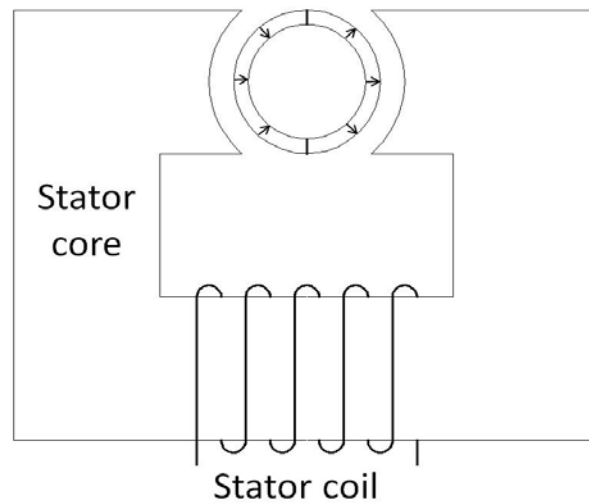

Figure 4.1 – Schematic of a single-phase permanent magnet brushless machine (shown at an angular displacement of 90°)
- iii) The average total torque produced by the machine at a current of 5A. (8)
- b.** The stator and rotor cores are manufactured from Silicon Iron. The radial airgap between the stator and rotor in the fully aligned position is 0.5mm. Listing any assumptions that you make, estimate the number of turns on each coil. ($\mu_0=4\pi\times 10^{-7} \text{ Hm}^{-1}$). (3)
- c.** The machine is rotating at a fixed speed of 200rpm. Calculate the maximum value of induced emf in the stator coil if the current is a constant 5A during the entire stroke (you **do not** need to plot the variation in flux-linkage versus rotor angular displacement unless you wish to do so to calculate the emf). (3)
- d.** The machine is driven from a 200V DC supply. At the start of the stroke, the full 200V is applied to the 4 series connected coils which make up a phase. Calculate the time taken for the current to rise to 5A when the machine is at standstill. (3)
- In each case, identify and label the main components of energy. (3)
4. a. Figure 4.1 shows a schematic of a single-phase, 2-pole brushless permanent magnet motor. The machine is driven from a power electronic converter. The rotor consists of a 2-pole magnet ring which is mounted on a cylindrical Silicon Iron core. The airgap between the outer surface of the magnet ring and the stator core is 0.5mm.
the motor of Figure 4.1